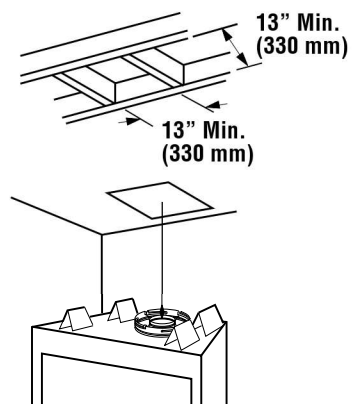

Figure 14
A. Frame ceiling opening - Use a plumb line from the ceiling above the appliance to locate center of the vertical run. Cut and/or frame an opening, 13" x 13" (330 mm x 330 mm) inside dimensions, about this center mark (**Figure 14**).
C. Frame ceiling opening - If the vertical route is to penetrate a ceiling, use plumb line to locate the center above the appliance. Cut and/or frame an opening, 14" x 14" (356 mm x 356 mm) inside dimensions, about this center (refer to **Figure 14 on page 10**).